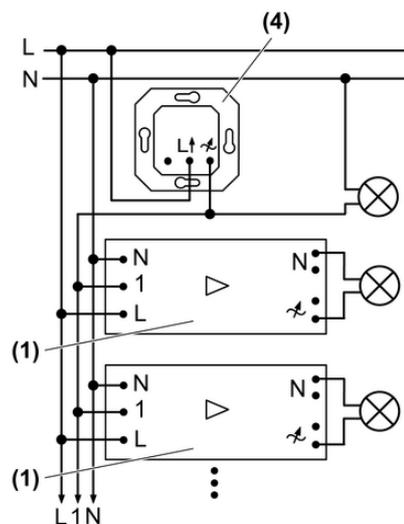

Figure 2
(1) Power extension
(4) Dimmer
- Connect the power extension according to the connection diagram (Figure 2).